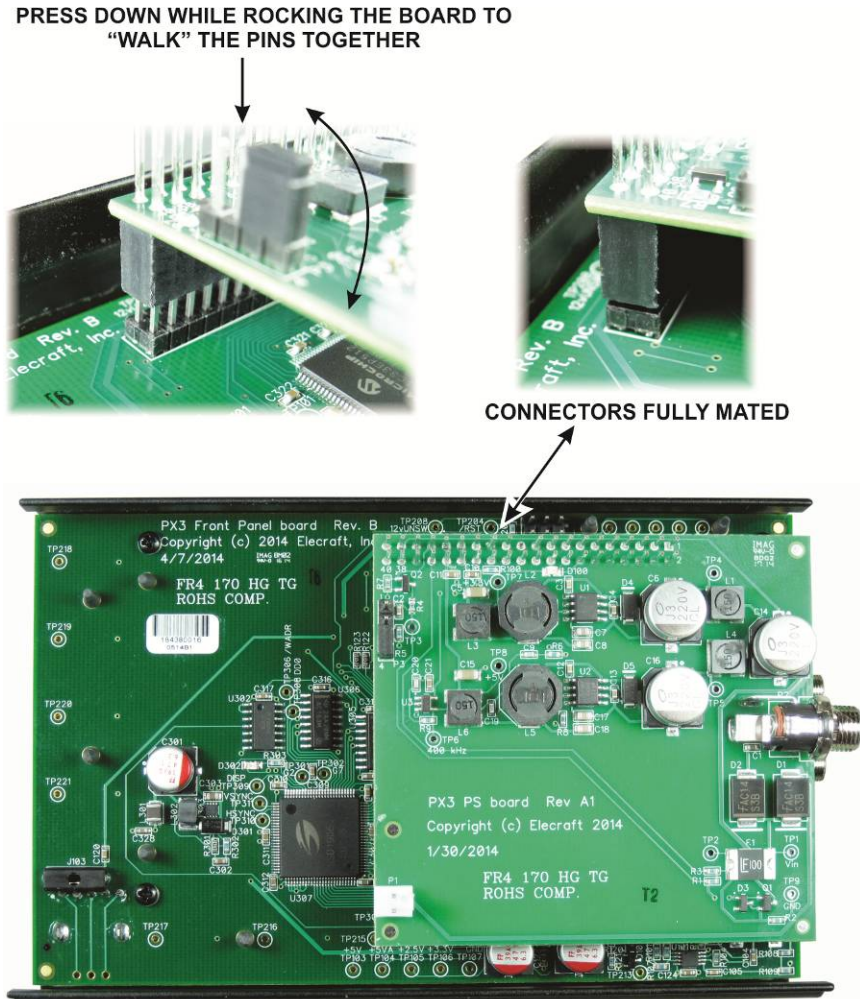
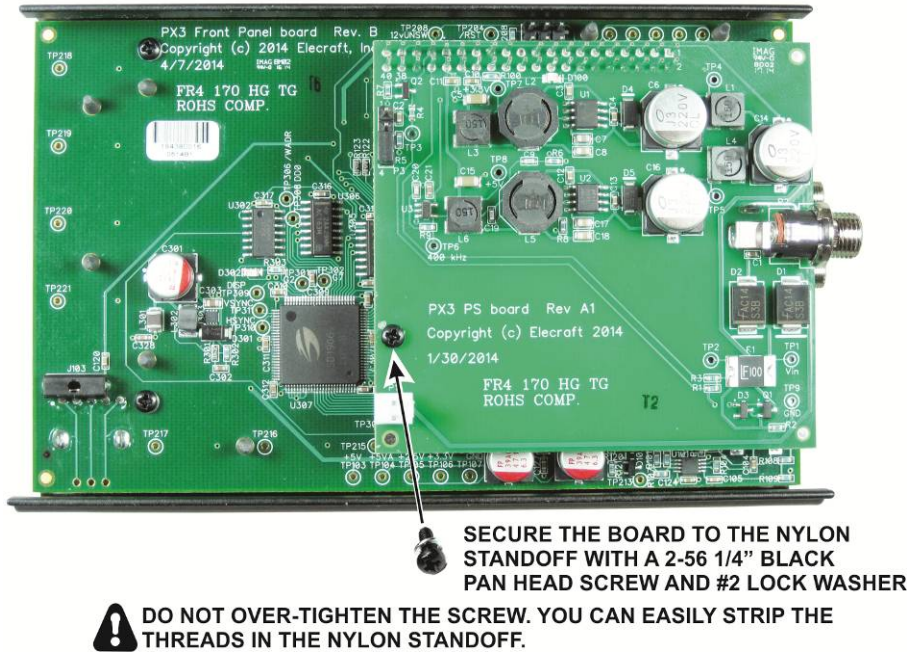

Figure 34. Mating the Power Supply Board Connectors.
Figure 35. Installing the Power Supply Board Mounting Screw.
□ Remove the power supply pc board from its packaging and mount it on the back of the front panel board as shown in Figure 34. Be sure the multi-pin connectors are properly lined up and fully mated as shown. The connectors fit very tightly.
- Attach the power supply board to the nylon standoff using a screw and lock washer as shown in Figure 35.
Remove the screw holding the power supply board to the front panel board (see Figure 35 on page 55) and then separate the connectors. Rock the power supply board while lifting it off as shown in Figure 34 on page 54 .